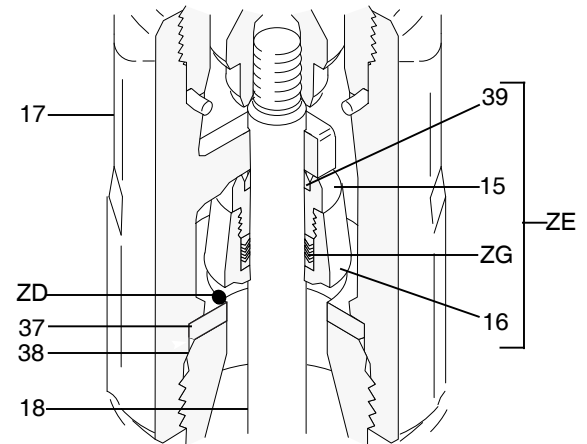
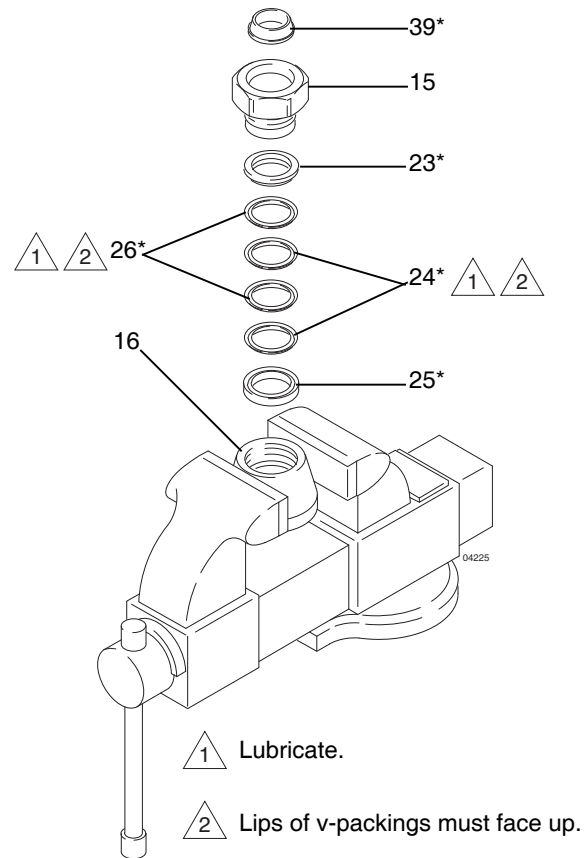

FIG. 5 Intake Valve Detail
FIG. 11
7. Pull the intake seat (37) and seal (38) out the bottom of the intake valve housing (17). Refer to FIG. 5, page 15.
15. Inspect the mating surfaces (ZH) of the piston (12) and piston seat (14) for damage or wear.
16. Disassemble the intake check valve assembly (ZE).
- a. Place the intake valve body (16) in a vise. Unscrew the packing nut (15).
- b. Remove the seal (39) from the packing nut. Remove the glands and packings (ZG) from the valve body.
17. Inspect the mating surfaces (ZD) of the intake valve body (16) and seat (37) for damage or wear. See FIG. 5, page 15, and FIG. 11, page 18.
2 Intake check valve (see Fig. 11).
1. Lubricate the intake packings and install them in the valve body (16), with the lips of the v-packings facing up, in the following order (see FIG. 11):
2. With the beveled side facing up, press the intake valve seal (39*) into the recess of the intake valve packing nut (15) until it snaps into place.